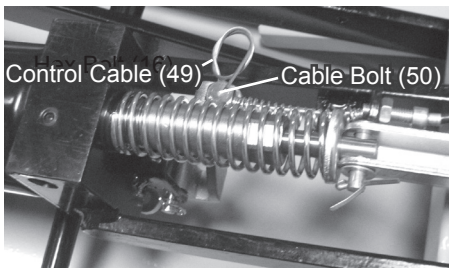

Figure 5
- b. Loosen the Cable Bolt (50) and Cable Nut (51) and tug the Control Cable until it is tight. **WARNING!** Do not pull too tight; you want to leave a small amount of give. See Figure 5.